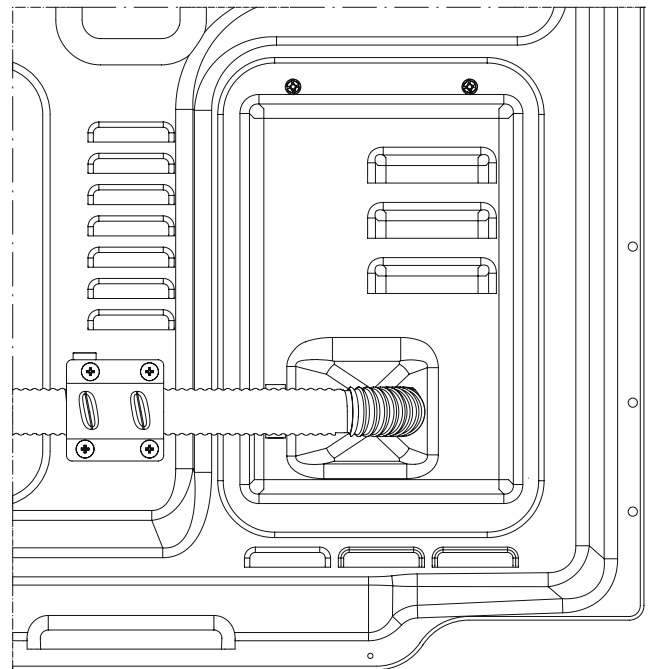

Figure 10
6. Place the cable in the groove (see fig.10) before securing the clamp over the cable and screw back in.